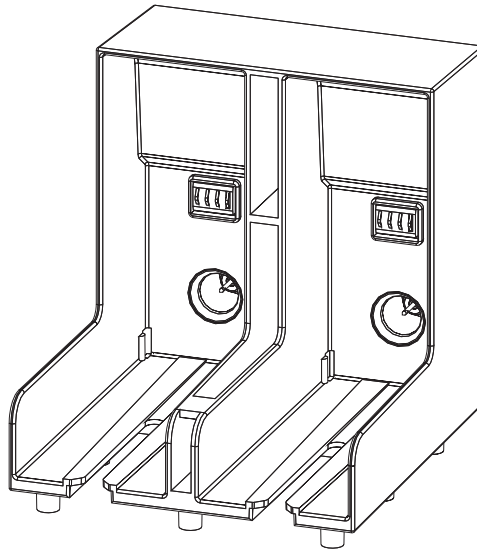

Figure 6-3: Cartridge Holder Slot
- 3 Insert the new ink cartridge into the ink cartridge holder by aligning the cartridge key with the correct holder slot (see Figure 6-3 on page 6-5).